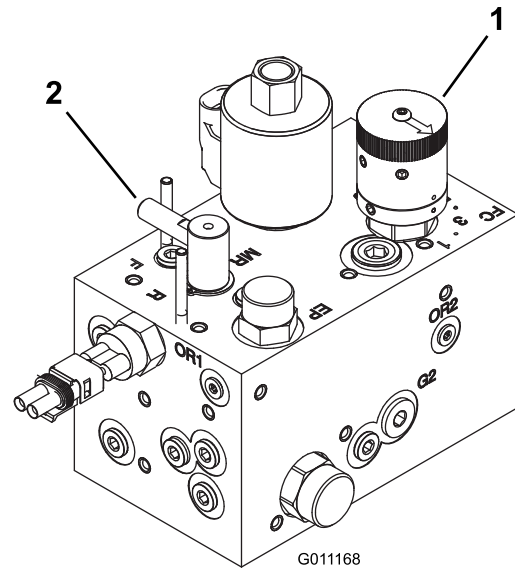

Figure 46
- Turn the reel speed control knob (Figure 46) to the number setting determined in Step 1.